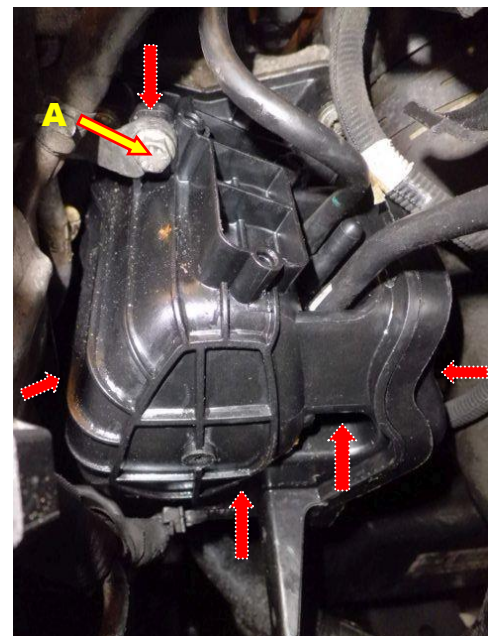

Figure 4
- Unscrew the oil dipstick pipe bracket (Figure 4, Item A) and carefully move it to one side
- Remove the 5 screws (Figure 4) that hold the housing in place